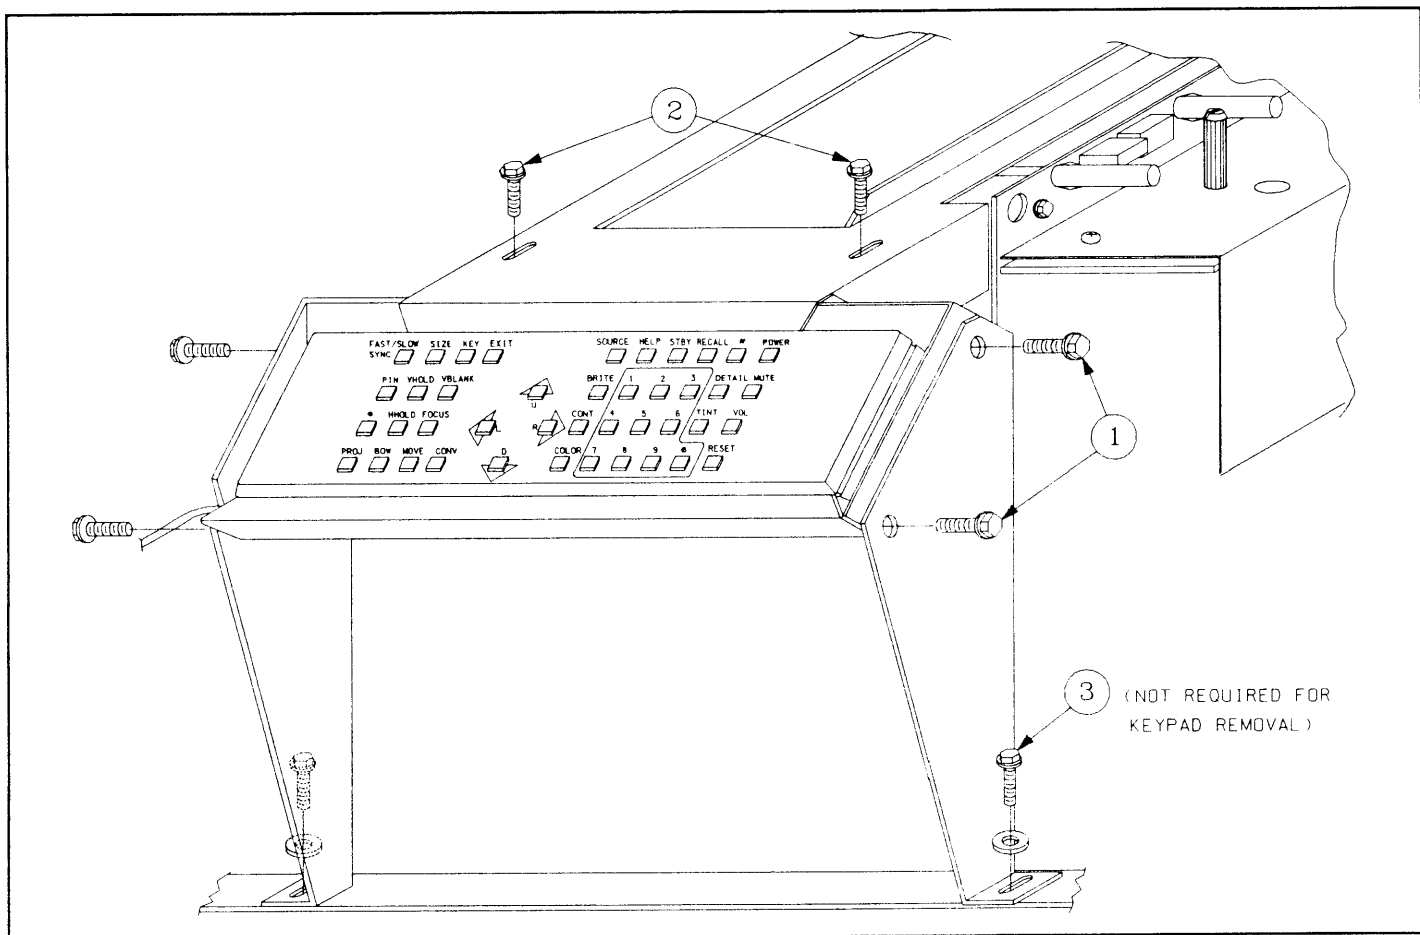

FIGURE 5-11. Keypad Removal
d) Remove the 4 hex head screws which secure the keypad holder to the side brackets. See Figure 5-11, item 1.
e) Remove the top 2 hex head screws which secure the keypad holder to the top bracket as shown (item 2).
g) If the keypad side brackets must also be removed for ease in accessibility to other modules, remove the 2 side bracket mounting screws (item 3).
**NOTE:** Item 3 in Figure 5-11 does not require removal if only the keypad is to be removed.